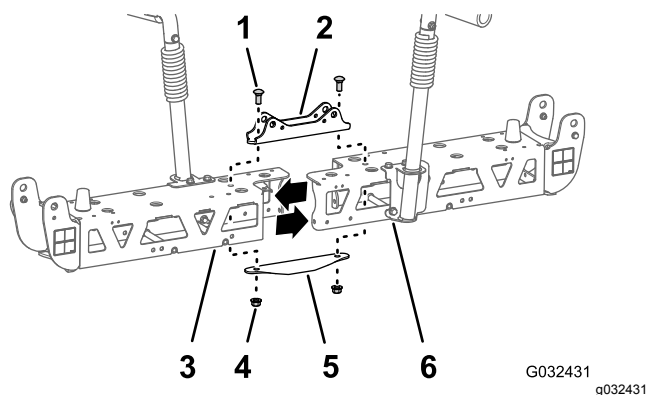

Figure 53
- Remove the 2 carriage bolts (1/2 x 1-1/4 inches) and 2 locknuts (1/2 inch) that secure the narrow cylinder mount, left and right truss frames, and narrow tie plate (Figure 53).